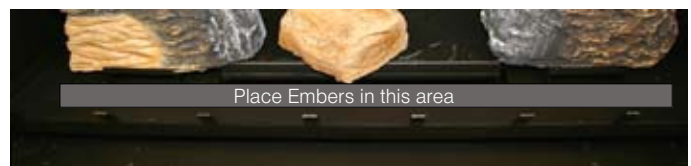

Figure 30g. Placing Embers.
Step 9. Place the Embers as shown in *figure 30g*.